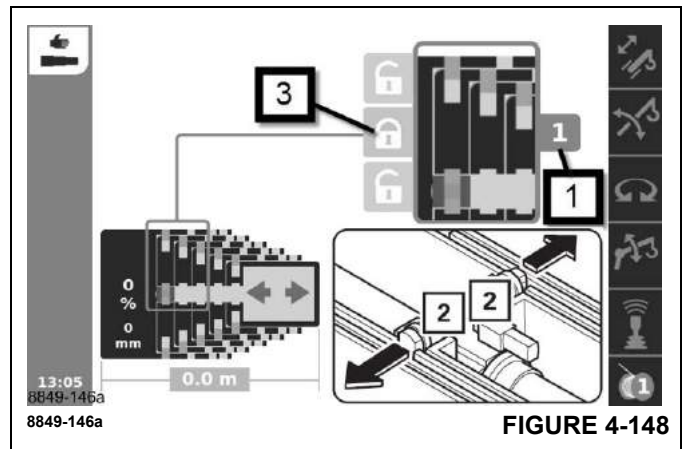

FIGURE 4-148
- Refer to (Figure 4-148).
- Telescope to the desired fixed length, e. g. telescopic section (1) 1 to 100%.